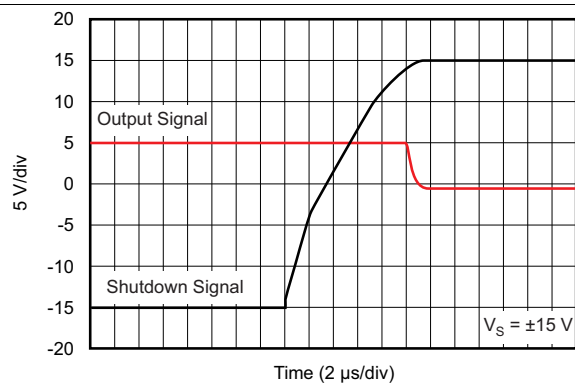

Figure 39. Turnoff Transient
(1) When disabled, the output assumes a high-impedance state.
(2) See Typical Characteristics curves (Fig 39 through Fig 41).
The shutdown (enable) function of the OPA211 is referenced to the positive supply voltage of the operational amplifier. A valid high disables the operational amplifier. A valid high is defined as (V+) – 0.35 V of the positive supply applied to the shutdown pin. A valid low is defined as (V+) – 3 V below the positive supply pin. For example, with V_{CC} at ±15 V, the device is enabled at or below 12 V. The device is disabled at or above 14.65 V. If dual or split power supplies are used, make sure the valid high or valid low input signals are properly referred to the positive supply voltage. This pin must be connected to a valid high or low voltage or driven, and not left open-circuit. The enable and disable times are provided in the Typical Characteristics section (see FIG 39 through FIG 41). When disabled, the output assumes a high-impedance state.